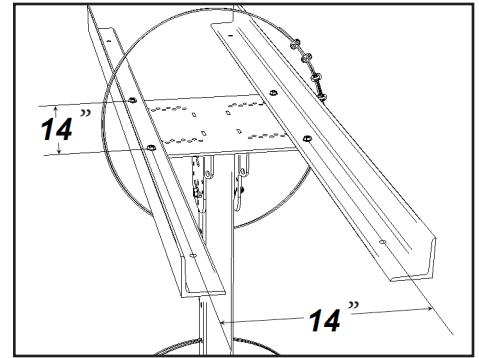

Fig. 9 - Attaching extension between joists
- ① Drill and mount the support materials according to Fig 9, at right, using appropriate hardware as directed in Tables 4 and 5, page 8.
- ② Attach and secure the steel downrod and powerhead assembly using the factory provided hardware following the process detailed under Step 2b, page 9.